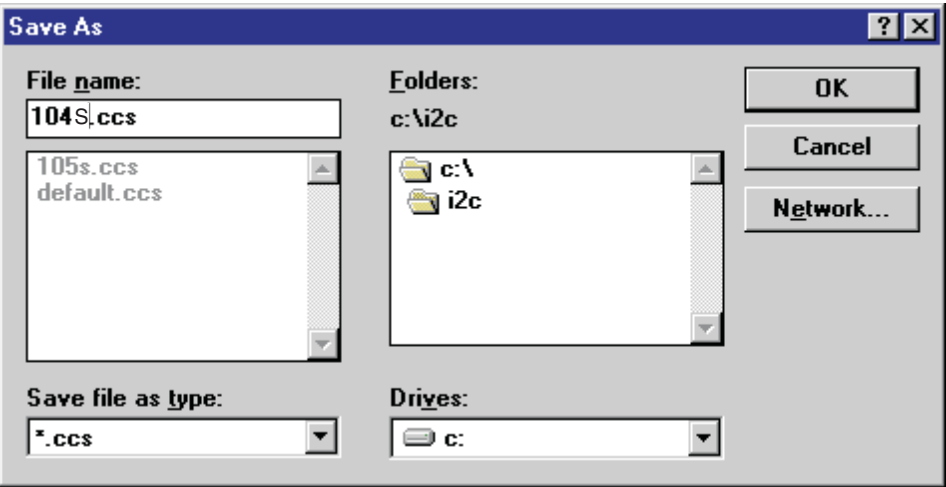

Fig. 12
- 1. Click "Save as", then bring up Fig. 12.